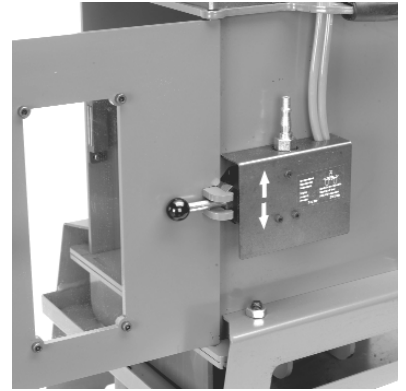

Fig. 5
**NOTE:** A safety lock-out device has been installed prevent the door being opened during operation. Refer to Fig. 5.